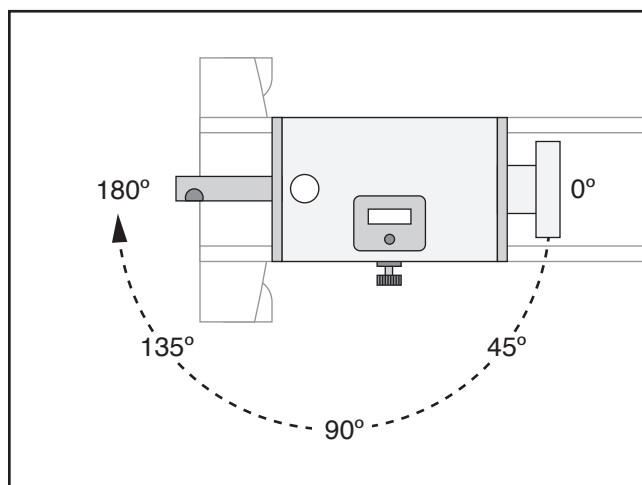

Figure 46. Headstock rotation stops.
- Rotate headstock clockwise until pivot pin engages at desired rotational stop shown in **Figure 46**.